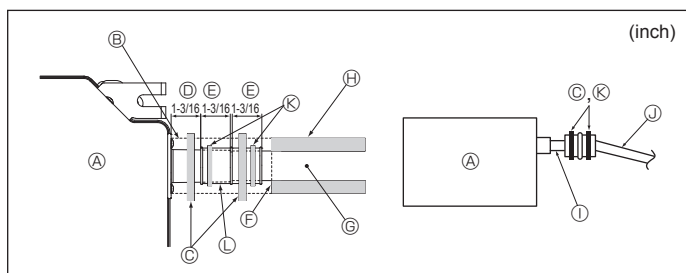

Fig. 6-2
- ⑥ O. D. $\phi 32$ mm (1-1/4 inch) PVC TUBE
- ⑦ Make it as large as possible
- ⑧ Indoor unit
- ⑨ Make the piping size large for grouped piping.
- ⑩ Downward slope (1/100 or more)
- ⑪ O. D. $\phi 38$ mm (1-1/2 inch) PVC TUBE for grouped piping (9 mm (11/32 inch) or more insulation)
- ⑫ Up to 850 (33 inch)
1. Connect the drain socket (supplied with the unit) to the drain port. (Fig. 6-2) (Affix the tube using PVC adhesive then secure it with a band.)